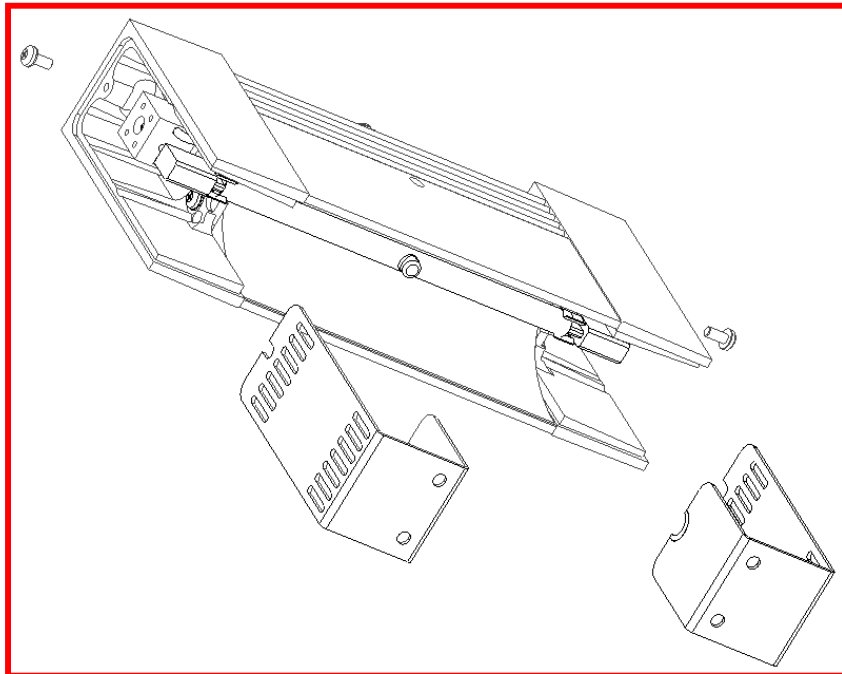

Figure 6-1. Model 5194 End Cover Removal.
6.1 LAMP REMOVAL/REPLACEMENT/INSTALLATION: The T3-style lamp is installed into the Model 5194 heater when shipped from the factory. The following procedure details the process to replace the lamps in the Model 5194 (reference Figure 6-1, 6-2, & 6-3):